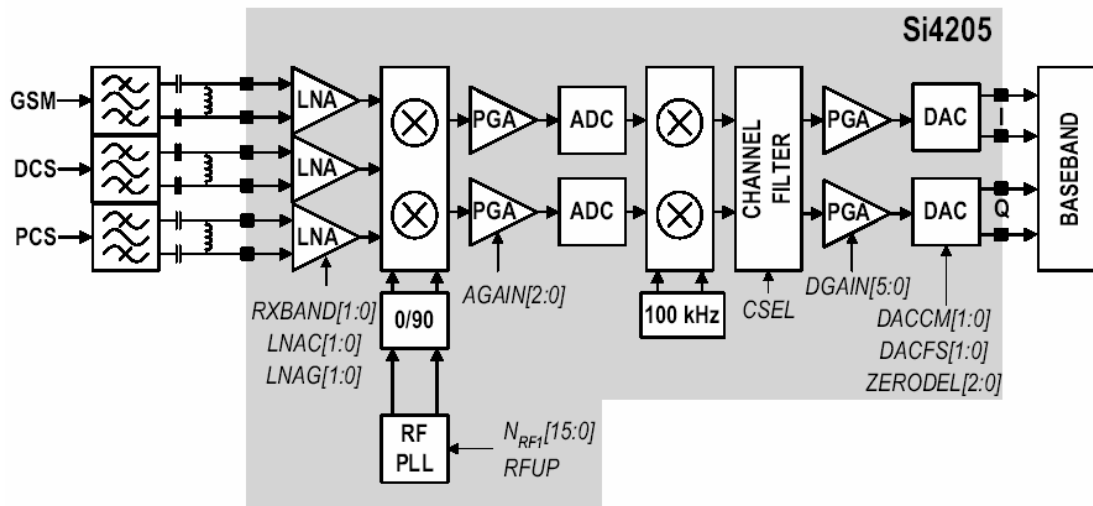

Figure. 3-2 SI4205 RECEIVER PARTIAGRAM
The LNA inputs are matched to the 150 Ω balanced output SAW filters through external LC matching networks. The LNA gain is controlled with the LNAG[1:0] and LNAC[1:0] bits in register 05h (Figure 3-2).
B. Intermediate frequency (IF) and Demodulation
A quadrature image-reject mixer downconverts the RF signal to a 100KHz intermediate frequency (IF) with the RFLO from the frequency synthesizer. The RFLO frequency is between 1737.8 to 1989.9 MHz, and is internally divided by 2 for GSM 850 and E-GSM 900 modes. The mixer output is amplified with an analog programmable gain amplifier (PGA), which is controlled with the AGAIN[2:0] bits in register 05h (Figure3-2). The quadrature IF signal is digitized with high resolution A/D converters(ADCs).